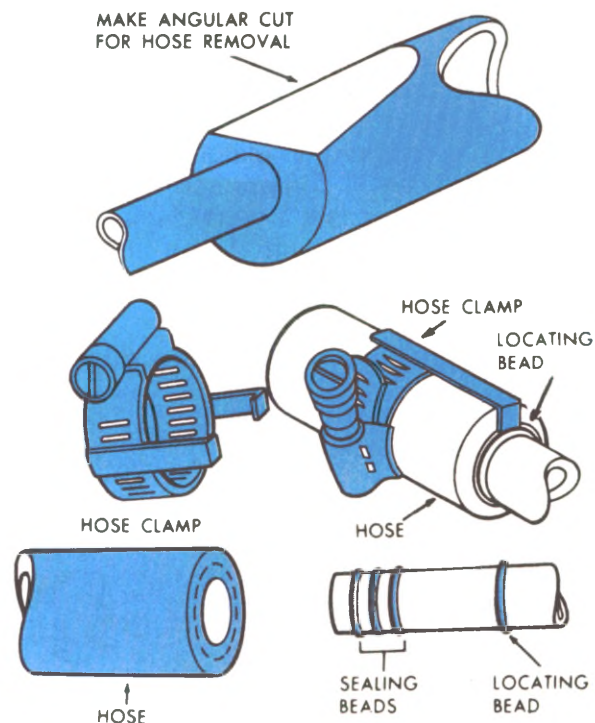

Fig. 3-20 — Hose Clamp Connections
2. If leak has not been corrected, discharge the system, loosen clamp and remove hose by making an angular cut as shown in Fig. 3-20. This should loosen hose so that it may be worked off the fitting.